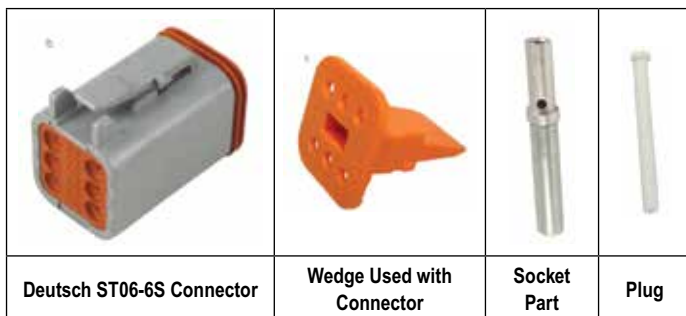

FIGURE 3 - CONNECTOR COMPONENTS
8. Insert the Deutsch W6S™ locking wedge into the front of the connector. See Figure 3.